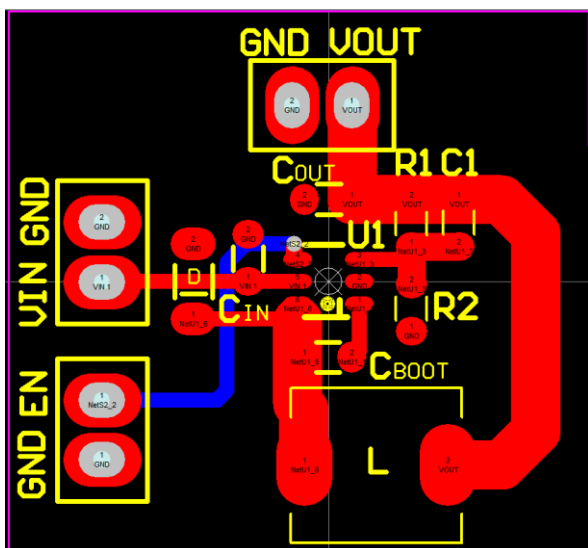

Figure 22. PCB Layout
For proper operation and minimum EMI, care must be taken during printed circuit board layout. Figure 22 shows the recommended component placement with trace, ground plane and via locations. Note that large, switched currents flow in the ATDC1934 VIN and SW pins, the catch diode (D) and the input capacitor ( $C_{IN}$ ). The loop formed by these components should be as small as possible. These components, along with the inductor and output capacitor, should be placed on the same side of the circuit board, and their connections should be made on that layer. Place a local, unbroken ground plane below these components. The SW and BOOST nodes should be as small as possible. Finally, keep the FB nodes small so that the ground traces will shield them from the SW and BOOST nodes. The Exposed Pad on the bottom of the package must be soldered to ground so that the pad acts as a heat sink. To keep thermal resistance low, extend the ground plane as much as possible, and add thermal vias under and near the ATDC1934 to additional ground planes within the circuit board and on the bottom side.